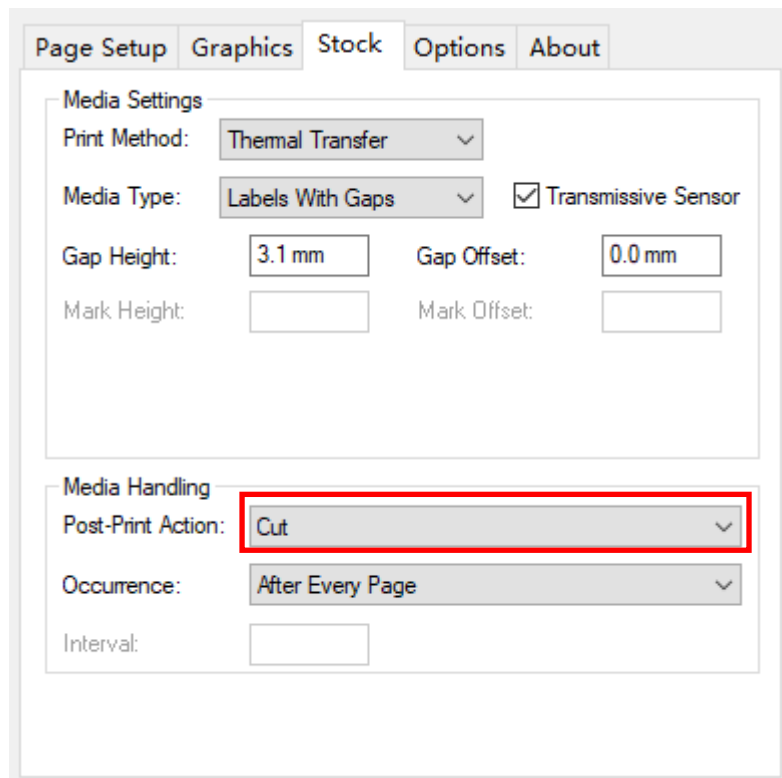

Figure 3-4 Stock Interface
1. Right click at the printer driver icon installed on the PC, select “Printer Preferences” → “Stock” → “Post-Print Action” → “Cut” to enable the Cutter Mode, as shown in Figure 3-4.